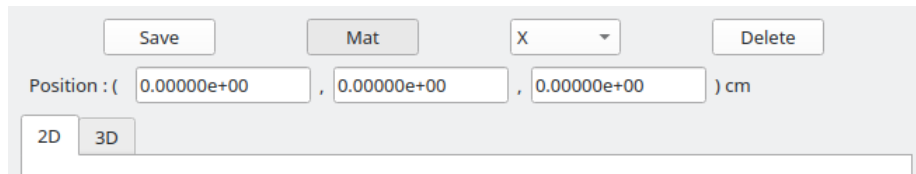

Figure 3: Common parameters.
Once the geometry is load, the user can move the camera inside the geometry using the interface or the shortcuts described following and shown in the Figure 3:
- **Plane switch:** This menu, which is labelled with a **X** in the Figure 3, allows the user to change the 2D plane where the geometry is rendered (*X*, *Y* or *Z*) or changing to a 3D view. It can be changed also selecting the render window and pushing the *x*, *y* or *z* keys respectively.